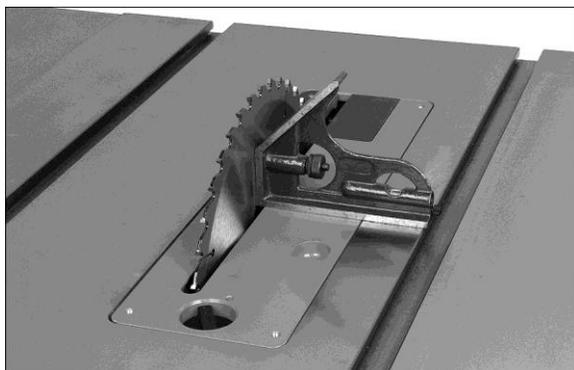

Figure 7-2
4. Place a square on the table and verify that blade is at 90° to table. See Figure 7-2. Make sure square is flat against blade surface and not touching a blade tooth.